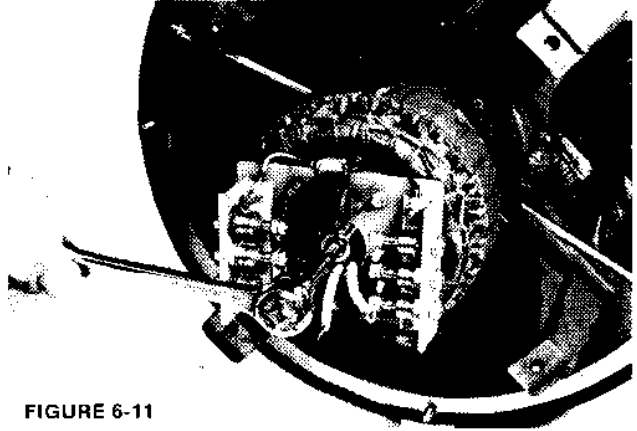

FIGURE 6-11
2. Remove the capscrew and belleville washer which holds the exciter (rotor) armature to the generator shaft. (Figure 6-11.)